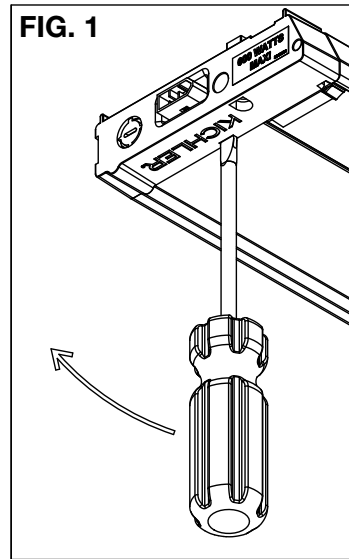

FIG. 2
3. Remove knock-out that allows for easiest access to conduit. Knock-out should be removed by inserting flat-headed screwdriver into the knock-out slot and rocking up and down until knock-out releases. (ref. FIG. 2)